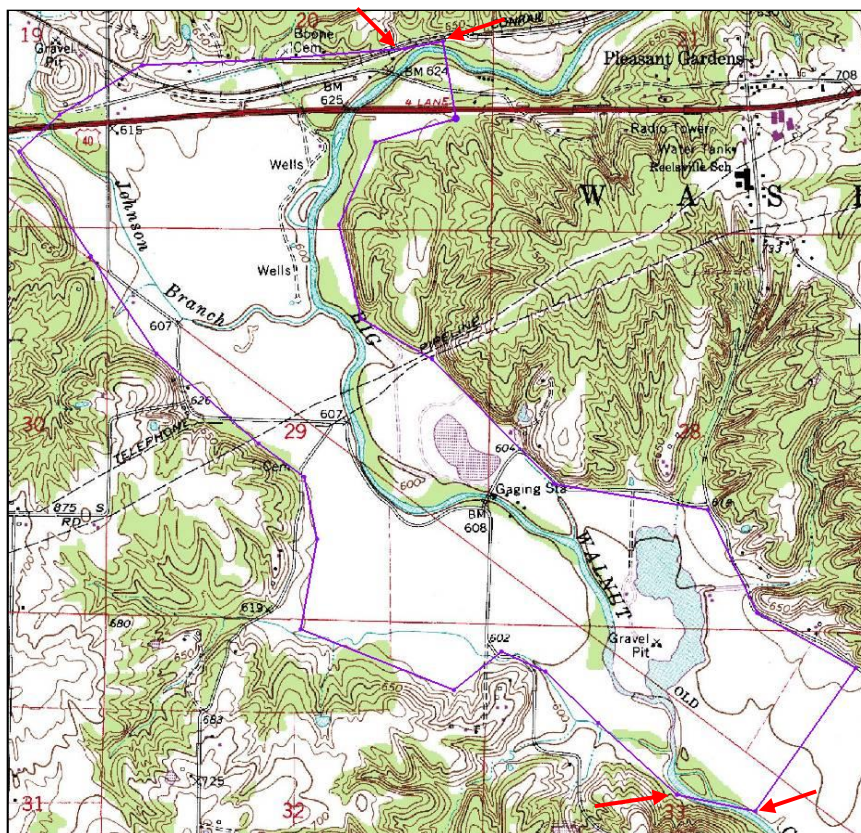

Figure 4 Convert vertices to nodes
5. Using the **Select Objects**  tool while pressing the *Shift* key, select the four points (vertices and/or nodes) indicated in Figure 4.
Depending on how the boundary arc was created, one of the vertices shown in Figure 4 may actually be a node. In that case, the node can still be selected with the **Select Vertex** tool (though it is not necessary in this case).